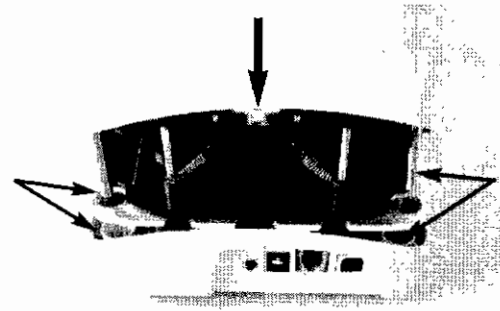

Fig.14
7. Insert the outer cover by aligning the two shafts with the holes in the base of the unit. See Fig.14.